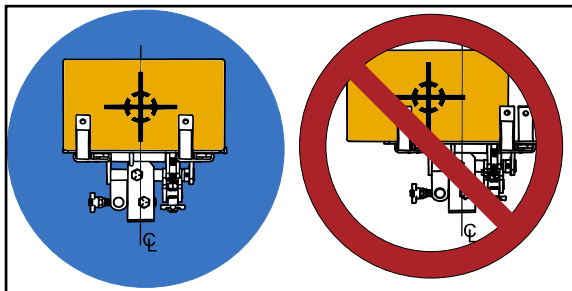

Fig. 1: Center mass
- ⚠ **Always place component's center of weight as near as possible to the lift platform's center**. See Fig. 1.